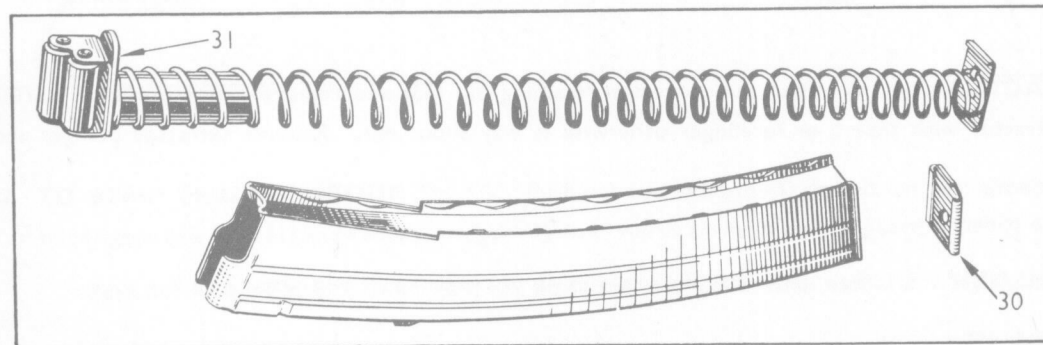

Fig. 16. To strip magazine
**9.6 TO STRIP MAGAZINE** (Fig. 16). Depress stud protruding through bottom plate (30) and slide plate from magazine case, controlling the magazine spring with hand